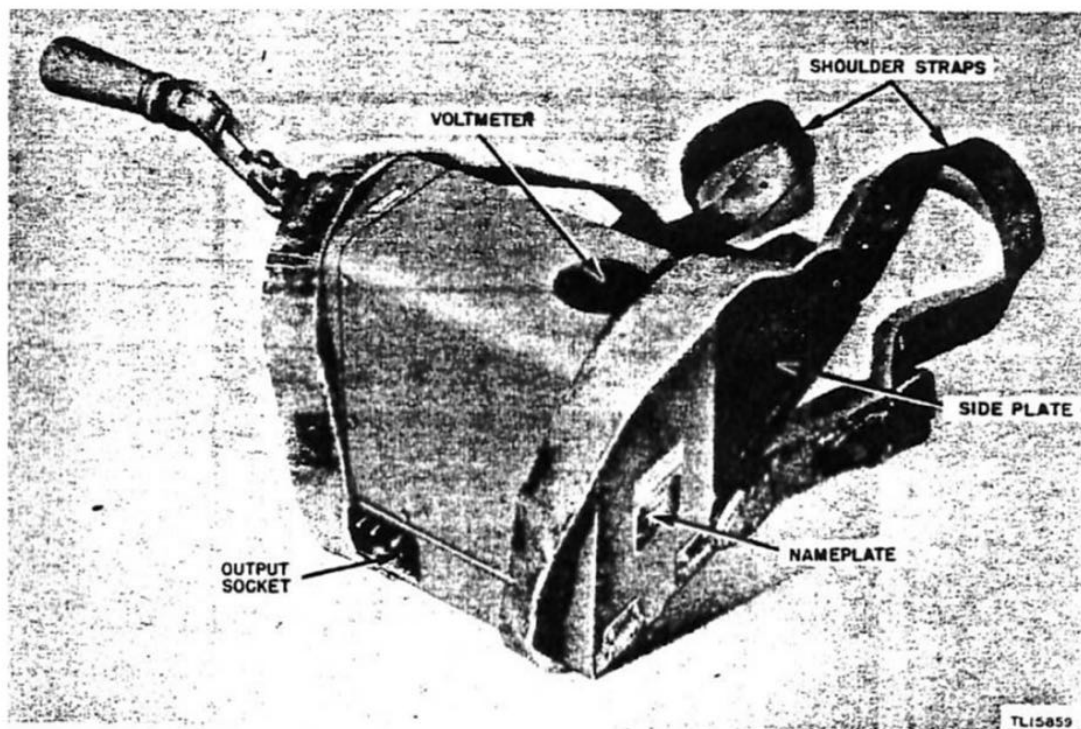

Figure 7. Mark 19 Type manually operated generator, left side view.
(2) The transmitter is normally powered by the 機電發回手型號九一 (Mark 19 Type manually operated generator) (figs. 7 and 13). The nameplate of the generator and its American equivalent are shown in figures 8 and 9. The generator dataplate and its American equivalent are shown in figures 10 and 11. The transmitter may also use an external battery pack for a power supply when the hand generator is not available. If a battery pack is used, one end of the four-wire generator cable (fig. 12) must be modified to provide suitable connection to the battery pack. A view of the 機電發回手型號九一 (Mark 19 Type manually operated generator) with the cover open is shown in figure 13. The hand generator is corded to the transmitter with a four-wire cable terminated on each end by a four-conductor female plug (fig. 12). The hand generator is carried between operating locations by two leather shoulder-straps. A heavy metal plate which is folded up along one side of the generator when